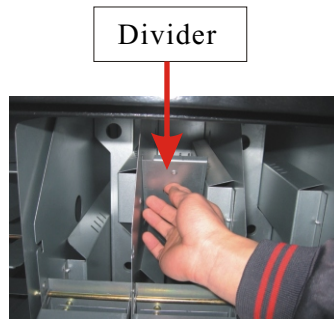

Figure 17 Pull divider toward you.
- b. Pull the internal divider towards you to access the “back” section (Figure 17).
2. Pull the column divider towards you to open the back section (*Figure 17, page 11*).